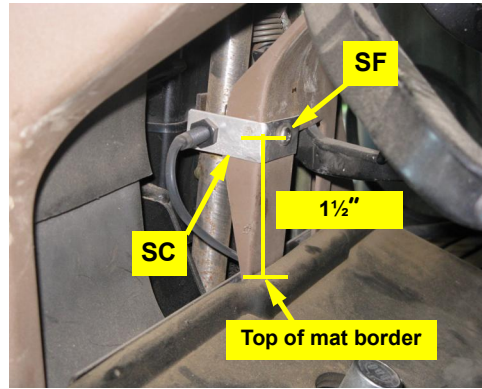

Figure 3: Installed sensor/bracket
- b. Using self-drilling screw **SF**, attach the aluminum bracket/sensor **SC** to the plastic cover at the point you measured (Figure 3).